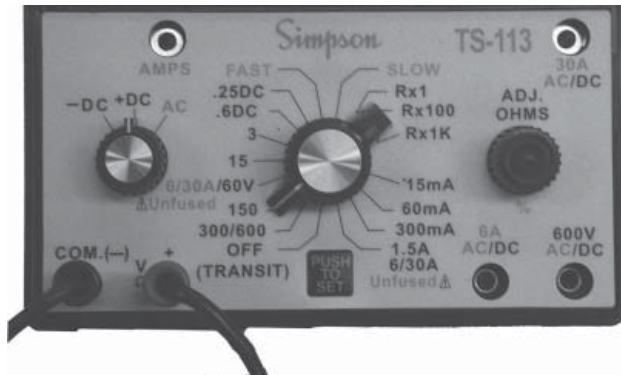

Figure 5. Measuring DC Volts
- Set the range selector switch between 0.25DC and 300/600 range as shown in Fig. 5. When in doubt, first select the highest available range.
- For voltages less than 300V,** (Fig. 5) connect the black marked lead into the "COM (-)" jack and the red marked lead into the "+" (V W %) jack.